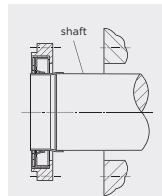

Figure 13-2
4. Install the oil seal seat together with the oil seal and mounting sleeve onto the shaft as shown in Figure 13-2.